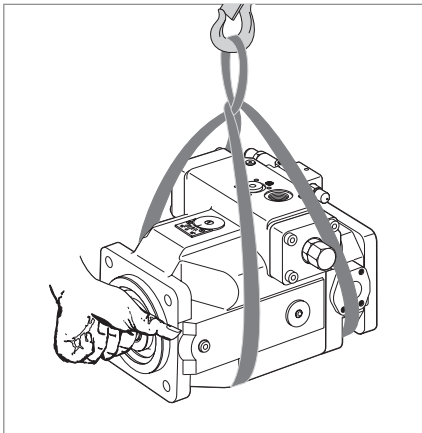

Fig. 5: Transport with lifting strap
- ▶ Place the lifting strap around the axial piston unit in such a way that it does not pass over assembled parts (e.g. valves, piping) and that the axial piston unit is not suspended from assembled parts (see Fig. 5).